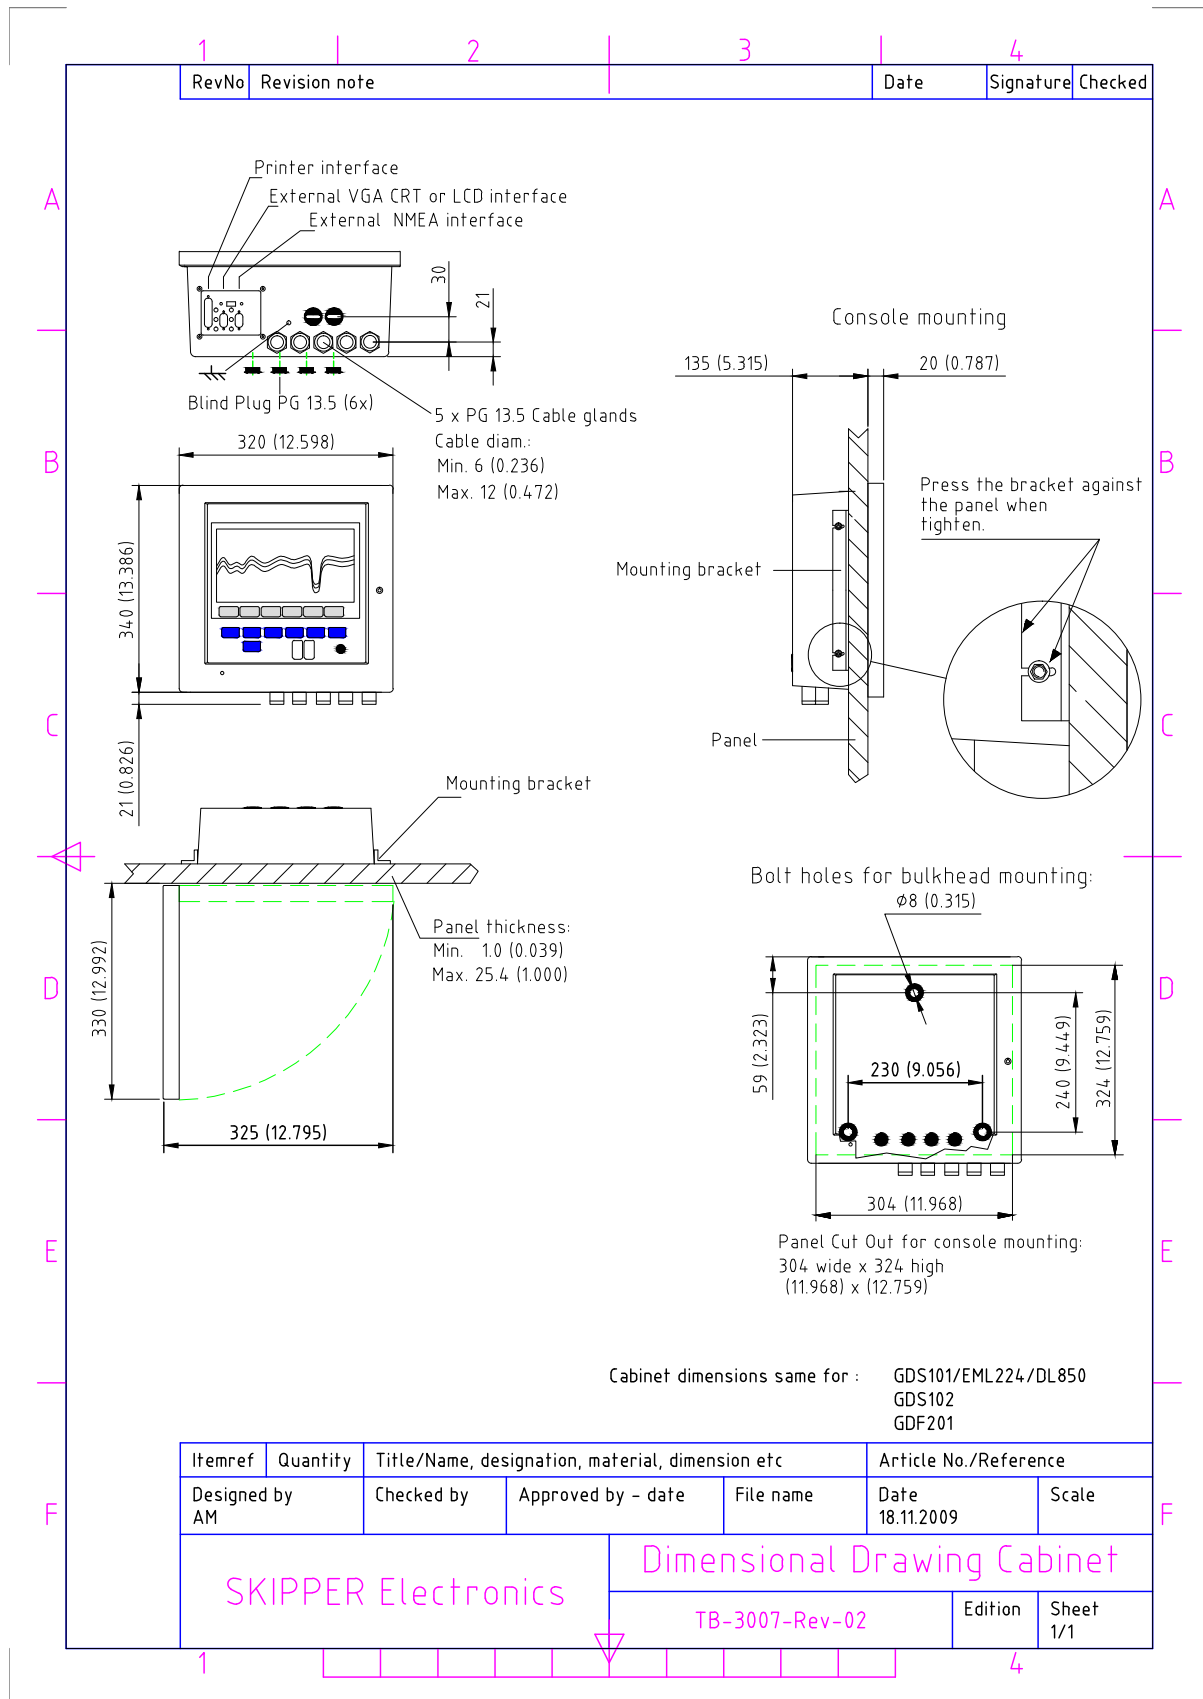

Fig. 10.7. Cabinet Dimensions
- Fig. 10.7. Dimensional drawing of operator unit.